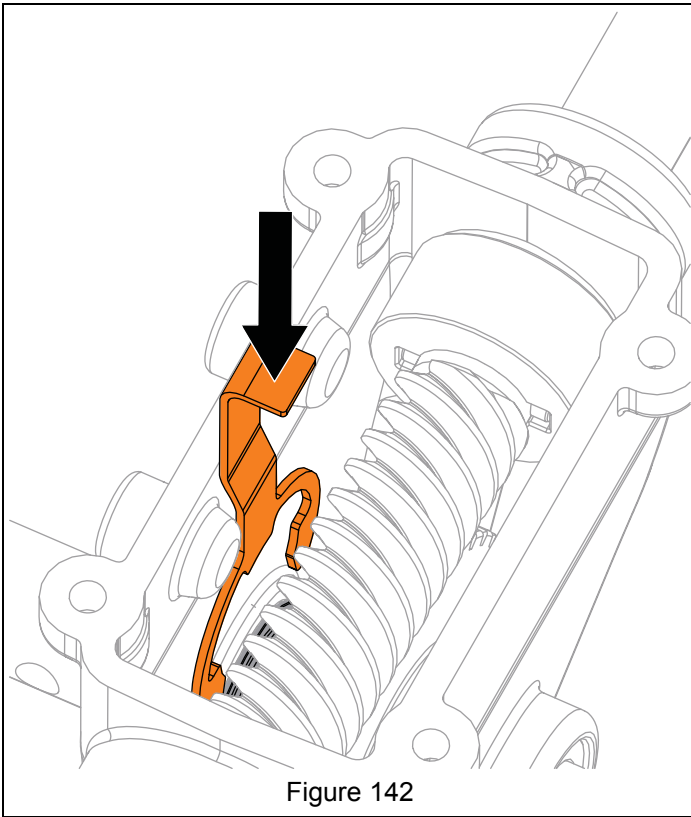

Figure 142
20. Reinstall bushing retainer into flange bushing groove. See Figure 142.